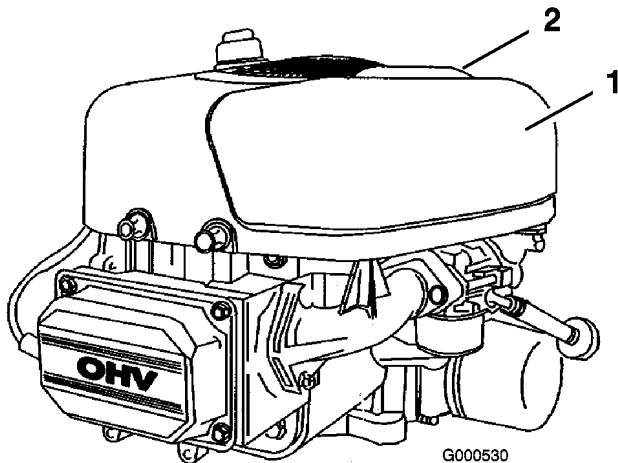

Figure 21
3. Clean around the air cleaner to prevent dirt from getting into the engine and causing damage. Pull up on the air cleaner cover handle and rotate it toward the engine (Figure 21). Remove the air cleaner cover.